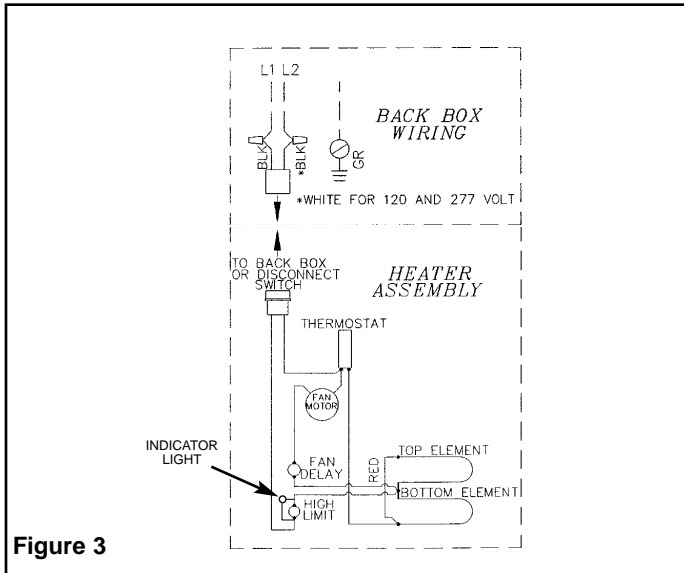

Figure 3
1. Following wiring diagram (Figure 3) connect supply wiring to heater leadwires in back box.
5. Fit heater/fan assembly into back box and secure in place with (2) screws provided through the center slots in the fan assembly.